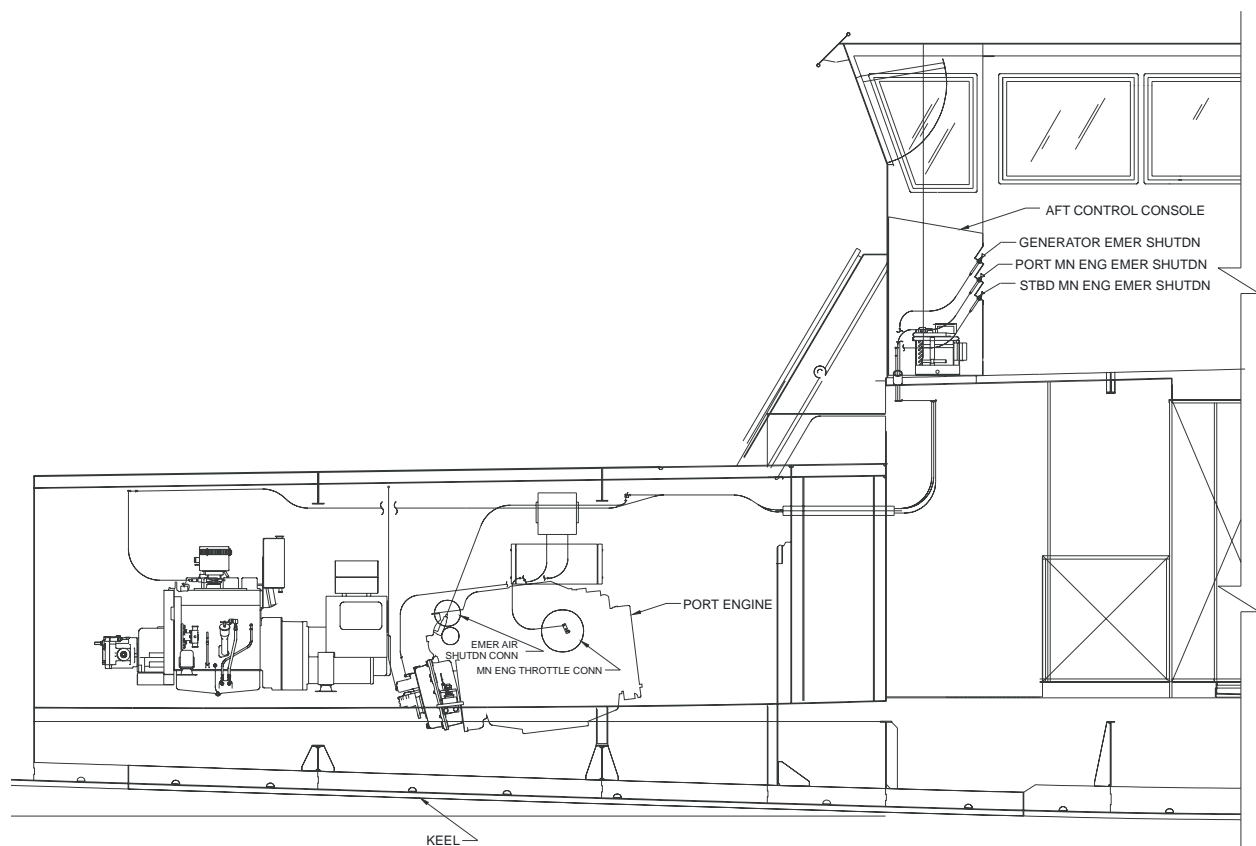

Figure 3-3
B.1. General The propulsion control system (**figure 3-3**) electronically integrates the control of the main propulsion engines in both the trolling and the fully clutched mode. The engines are normally controlled from the forward pilothouse, station #1, or aft control console, station #2 (**figures 3-4 and 3-5**). The major components of the propulsion control system are the control heads (forward and aft control stations in the pilothouse), troll/non-troll switches, 585CE actuators, one per engine in the main engine room, and one 813 trolling valve actuator.